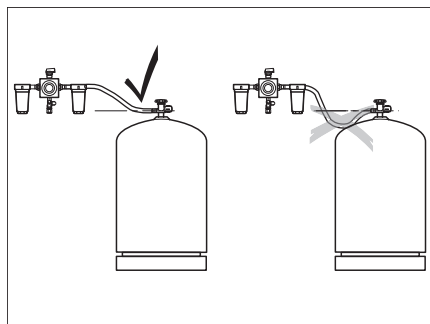

Fig. 253 Routing of the high-pressure hoses
- ▷ When routing the high-pressure hoses ensure that the hoses rise continuously (Fig. 253).